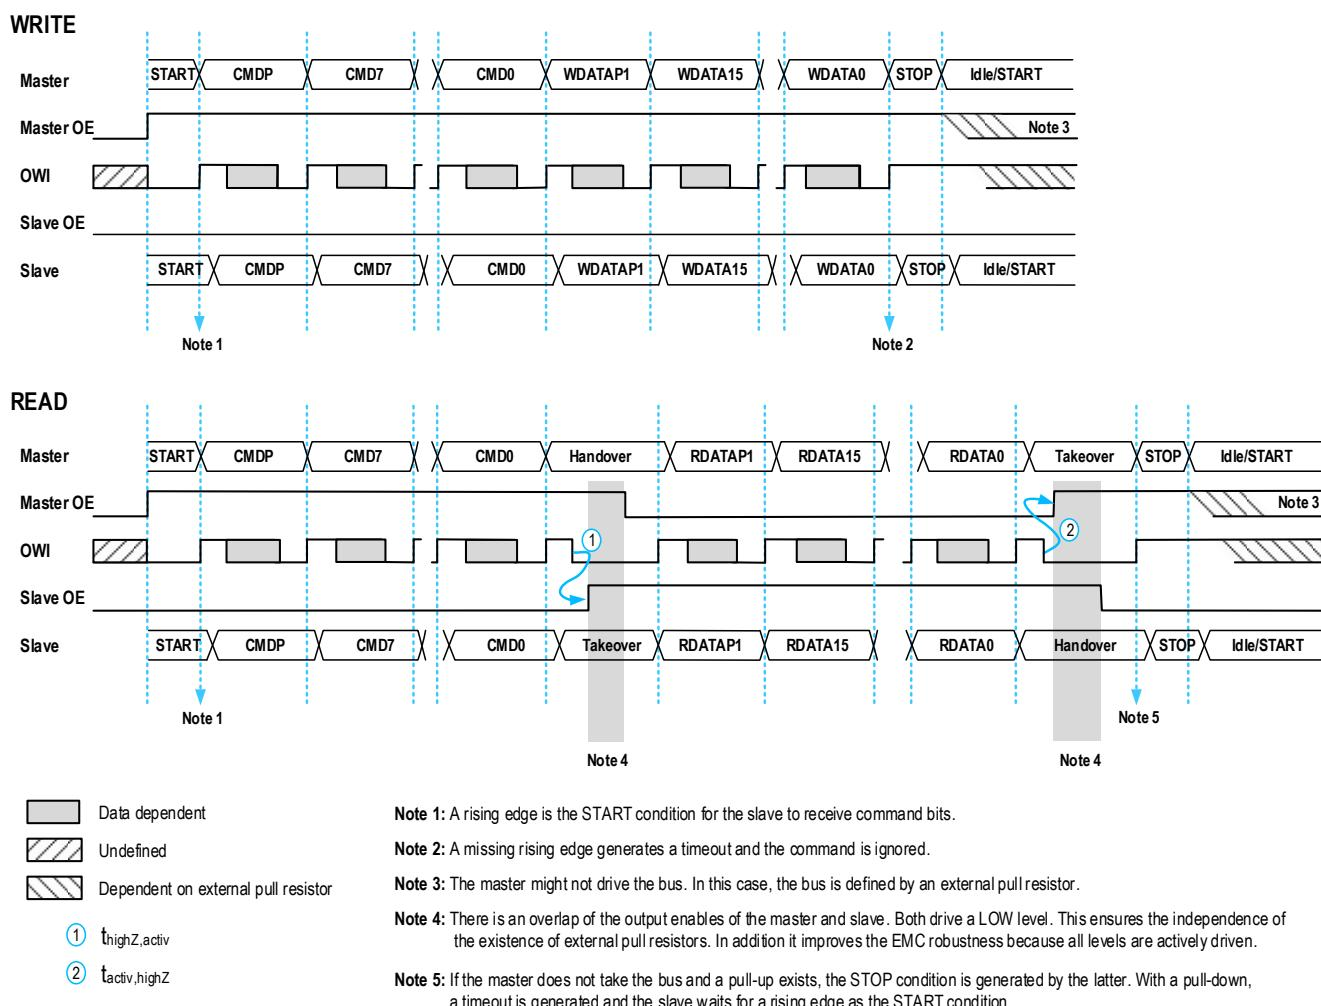

Figure 5. OWI Detailed Data Transfer
Figure 5 shows the timing for full WRITE and READ access. Each command consists of an associated parity bit followed by 8 command bits (CMDP, CMD7 to CMD0). Each data word consists of the parity bit associated with the 8 most significant bits (MSBs) followed by the 8 MSBs and then the parity bit associated with the 8 least significant bits (LSBs) followed by the 8 LSBs (DATAP1, DATA15 to DATA8, DATA1, DATA0, DATA7 to DATA0). The parity bit is always transferred first followed by the data starting with the MSB.
Figure 5 illustrates this protocol using the prefix R or W to indicate the direction of the parity and data bits.
3. See section 2.3.2, section 2.3.3, and Figure 5 for further information.